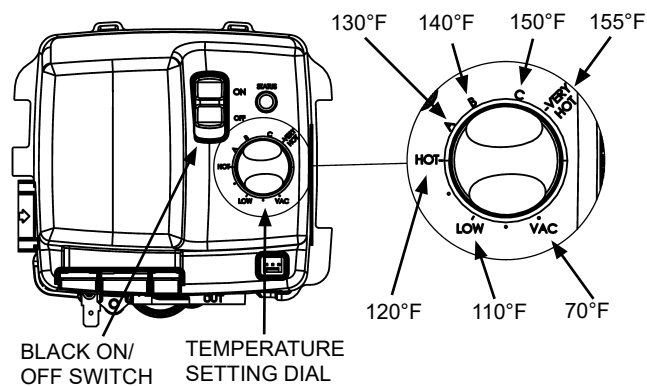
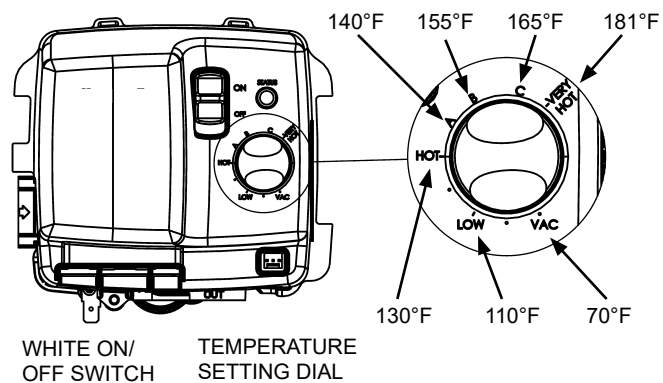

Figure 46.
Figure 47.
This water heater is equipped with an adjustable thermostat to control water temperature (see Figure 47 & Figure 46). Hot water temperatures required for automatic dishwasher and laundry use can cause scald burns resulting in serious personal injury and/or death. The temperature at which injury occurs varies with the person's age and time of the exposure. The slower response time of children, aged or disabled persons increases the hazards to them. Never allow small children to use a hot-water tap, or to draw their own bath water. Never leave a child or disabled person unattended in a bathtub or shower. To reduce the risk of scalding, install Thermostatic Mixing Valves (temperature limiting valves) at each point-of-use. These can be purchased from your local plumbing supply store.
The thermostat settings on the gas control valve are shown in Figure 47 & Figure 46.
1. Turn the thermostat on the gas control to the lowest setting. If the heater is running, wait for it to shut down (see Figure 47).